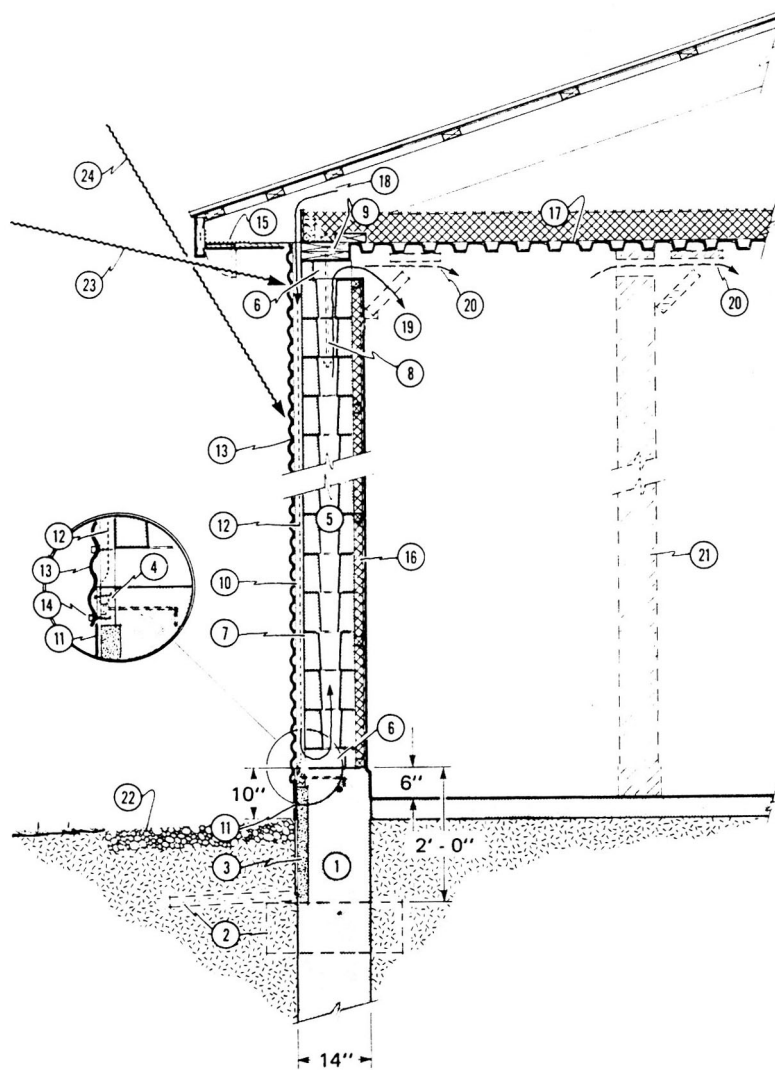

Figure 2. Details of construction
CONSTRUCTION DETAILS Figure 2 shows details of construction and method of operation. The solar wall may be built as the south wall of a new barn, or it may
The preferred order of construction is outlined by the sequence of the numbered notes in Figure 2. After laying up the concrete block storage wall, it should be washed with 10% muriatic acid solution and then rinsed thoroughly with clean water, to ensure paint adhesion. Paint with two coats of flat black exterior latex, using roller or spray. Paint the cedar strapping (10) as well, after fastening it with ramsets or lead anchors to the painted block wall.
the solar-heated air can be dumped directly into the hallway, without the slot baffle. Whenever solar heating is not enough, more heat is added in the hallway (such as with electric fan-forced heaters), then the warmed air is passed through adjustable inlets into the animal room(s). The arrangement of these adjustable inlets may or may not be as shown in Figure 2. If, for example, the shorter wall of the animal room is adjacent to the preheat hallway, it is often better to run a ceiling duct from the hallway into the room and to spread the air from both sides of the duct.